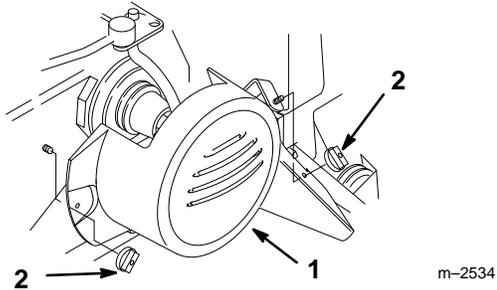

Figure 26
1. Remove the two wing nuts and belt cover from the tractor (Fig. 26).